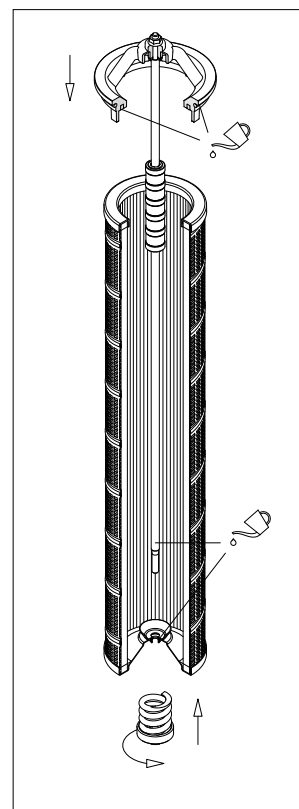

fig. 27
- (Fig. 27) Lubricate with the operating fluid the filter element O-ring, the tie rod, and the insert seals, then fit the tie rod into the filter element end cap until the moulded gasket leans against the top cap. Pay attention not to damage the O-ring seal. Then screw the bypass in referring to the tightening torque table in paragraph 3